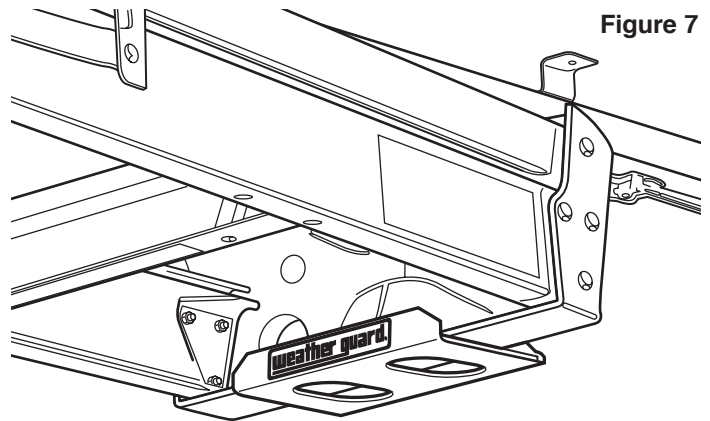

Figure 7
5. Lift the top of the ladder and place it in the front cradle. See Figure 7.